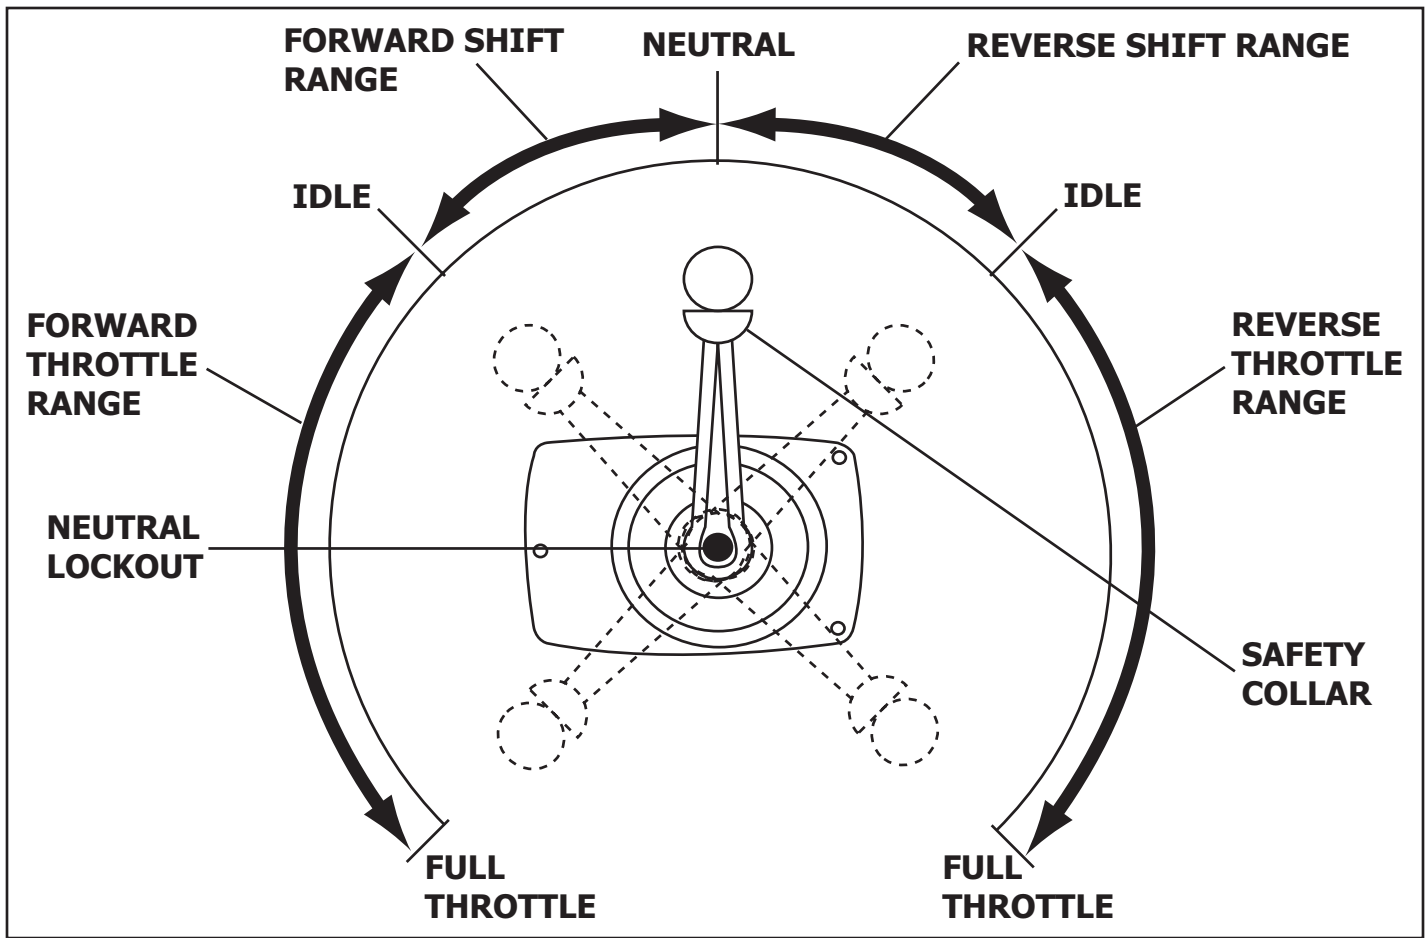

Figure 5-3 Typical Throttle / Shift Position Settings
5. Do not pump or open the throttle when starting the engine (Figure 5-3). The ECM will automatically regulate the fuel and control desired idle speed.
7. **In the event the engine becomes flooded,** ensure the Neutral Lockout is engaged and move the throttle lever to a 100% open position (Figure 5-3). At this throttle position, the ECM will command the injectors to deliver no fuel during engine cranking. When the engine starts, return the throttle lever back to the idle position.